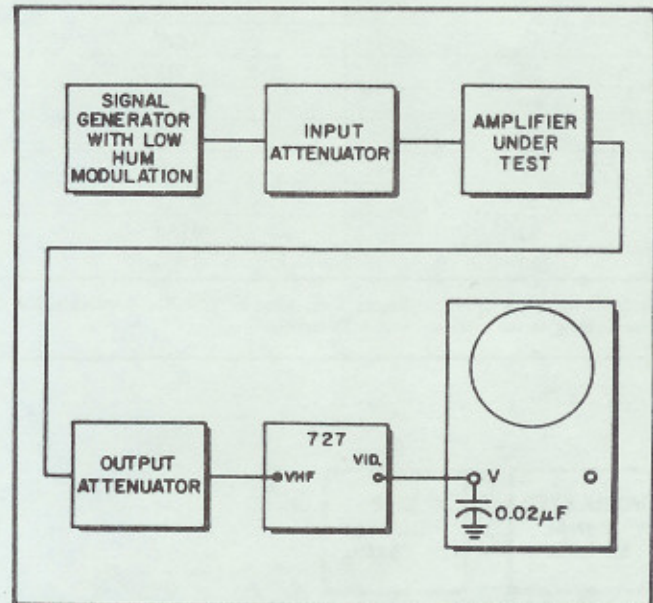

Fig. 3-6. Setup for Measuring Hum Modulation
1. Connect the equipment as diagrammed in Fig. 3-6. Use a General Radio Type 274-MB twin banana plug at the vertical input of the oscilloscope and insert a 20,000 pF capacitor between the input and the oscilloscope chassis ground for filtering out noise. Also, to minimize stray hum loops, be certain that there is no ground connection to the oscilloscope chassis other than the input cable shield. If the oscilloscope has a 3-pin plug on its line cord, attach a 2-pin adapter. Operate the 727 on battery power, eliminating the possibility of the meter itself contributing hum.